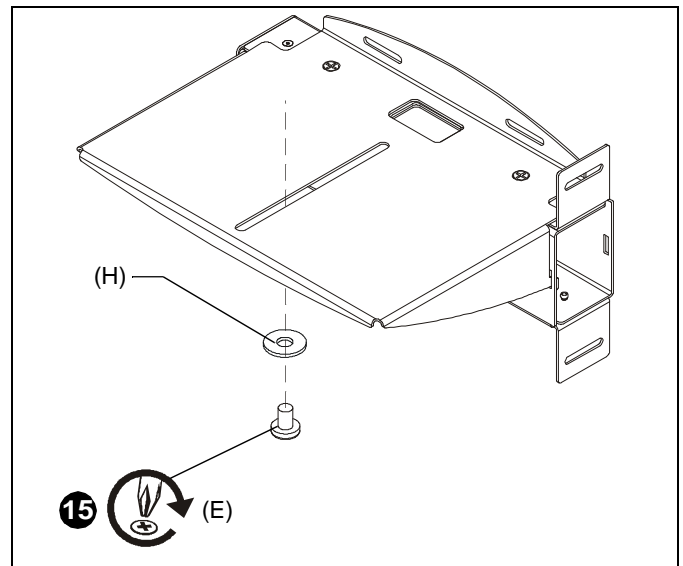

Figure 9
15. Attach camera to the shelf using a 1/4-20 x 3/8" Phillips screw (E) and 1/4" washer (H). (See Figure 9)